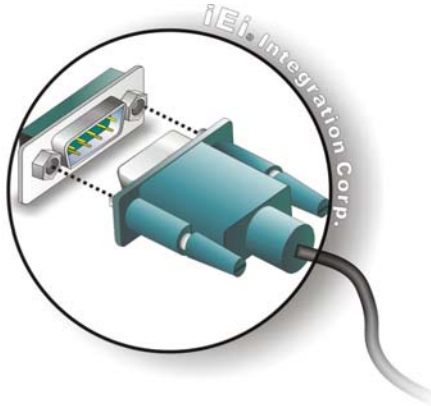

Figure 3-34: Serial Device Connector
- Step 3:** Secure the terminal block to the external interface by tightening the two slot head screws. See **Figure 3-34**.
Step 2: Insert the serial connector. Insert the DB-9 connector of a serial device into the DB-9 connector on the external peripheral interface. See **Figure 3-34**.